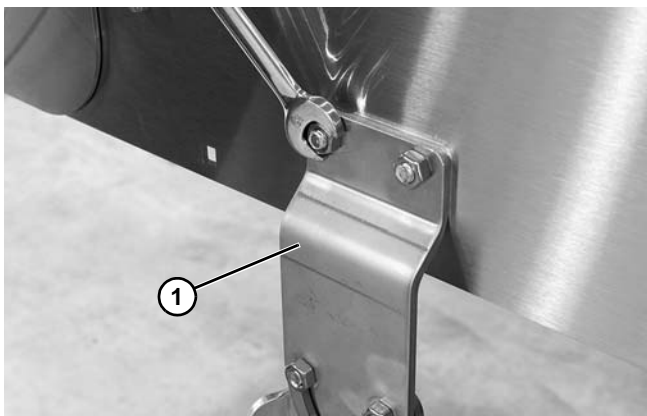

Figure 15
2. Attach the stands (Figure 15, item 1) to the frame.